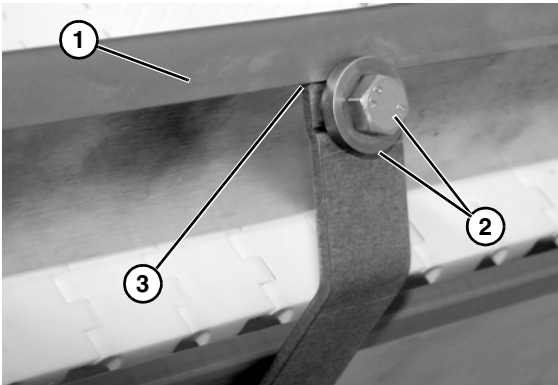

Figure 20
- Attach guide (**Figure 20, item 1**) to the mounting brackets with hex bolts and spacers (**Figure 20, item 2**). Hand tighten only at this time.
- Ensure that nose of bracket slips under the lip of guide (**Figure 20, item 3**).